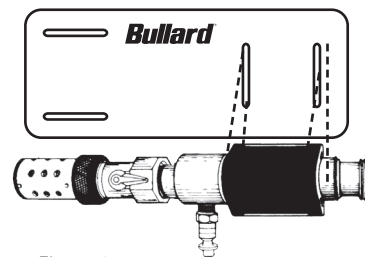
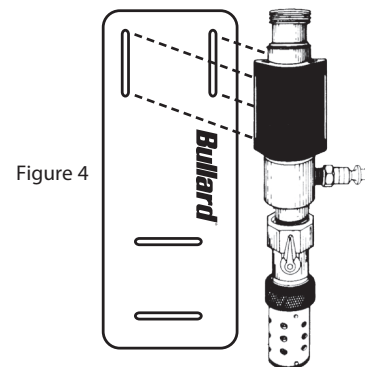

Figure 3
Figure 4
2. If the device will be worn in the horizontal position, align the tube on the heat shield as shown in Figure 3. If the tube will be worn in the vertical position, align the tube on the heat shield as shown in Figure 4.